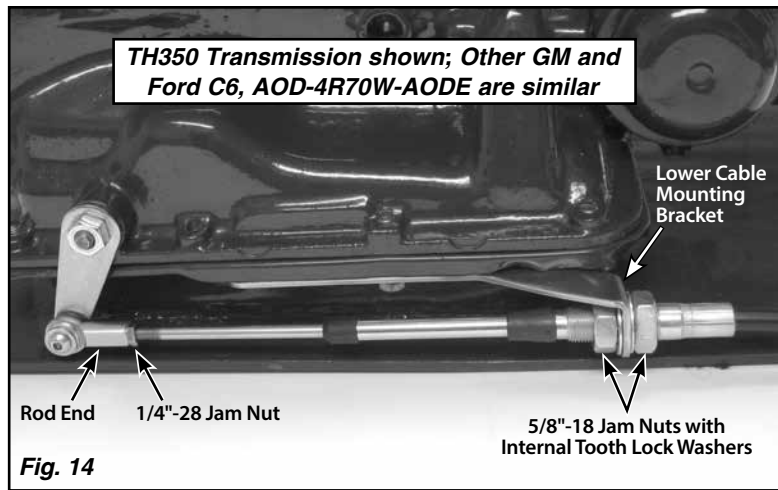

Fig. 14
- **TH350 and TH400:** The rod end attaches to the outside of the trans gear lever, away from the transmission. **Fig. 14 & 16**
- **700-R4, 200-4R, and 4L60:** The flat head bolt is installed from the inside of the trans gear lever, and the rod end attaches to the outside of the trans gear lever, away from the transmission. **Fig. 14 & 17**
- **4L60E, 4L80E:** The rod end attaches to the inside of the trans gear lever, towards the transmission. The 1/8" rod end spacer is required on some transmissions for proper alignment. If needed, the spacer goes between the rod end and the trans gear lever. **Fig. 14 & 18**